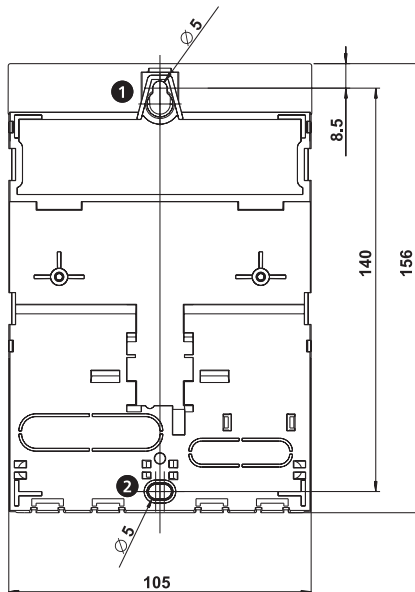

Fig. 2: Rear side of the controller with the upper ❶ and lower mounting holes ❷
2. Screw in the screw for the upper mounting hole ❶ (Fig. 2) until the screw head has a clearance of 5 ... 7 mm from the mounting surface.
4. Mark the position of the lower mounting hole ❷ through the casing.
6. Hang the controller by the upper mounting hole ❶ and then fasten the screw in the lower mounting hole ❷.